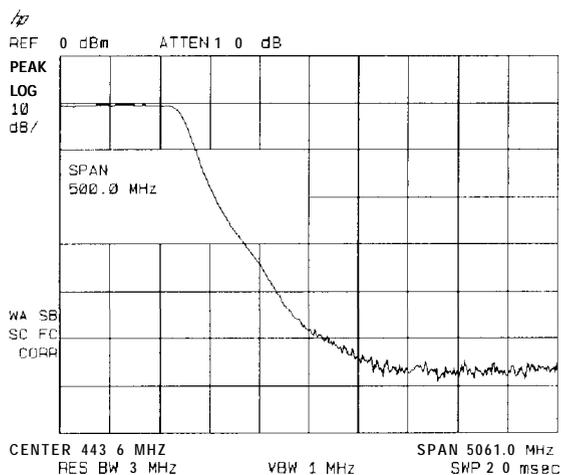

Figure 4-6. Spectrum Analyzer Settings According to the Measurement Requirement
- Since we are only interested in the rejection of the low-pass filter, tune the spectrum analyzer center frequency so that the roll-off of the filter comprises the majority of the trace on the display (see Figure 4-6).